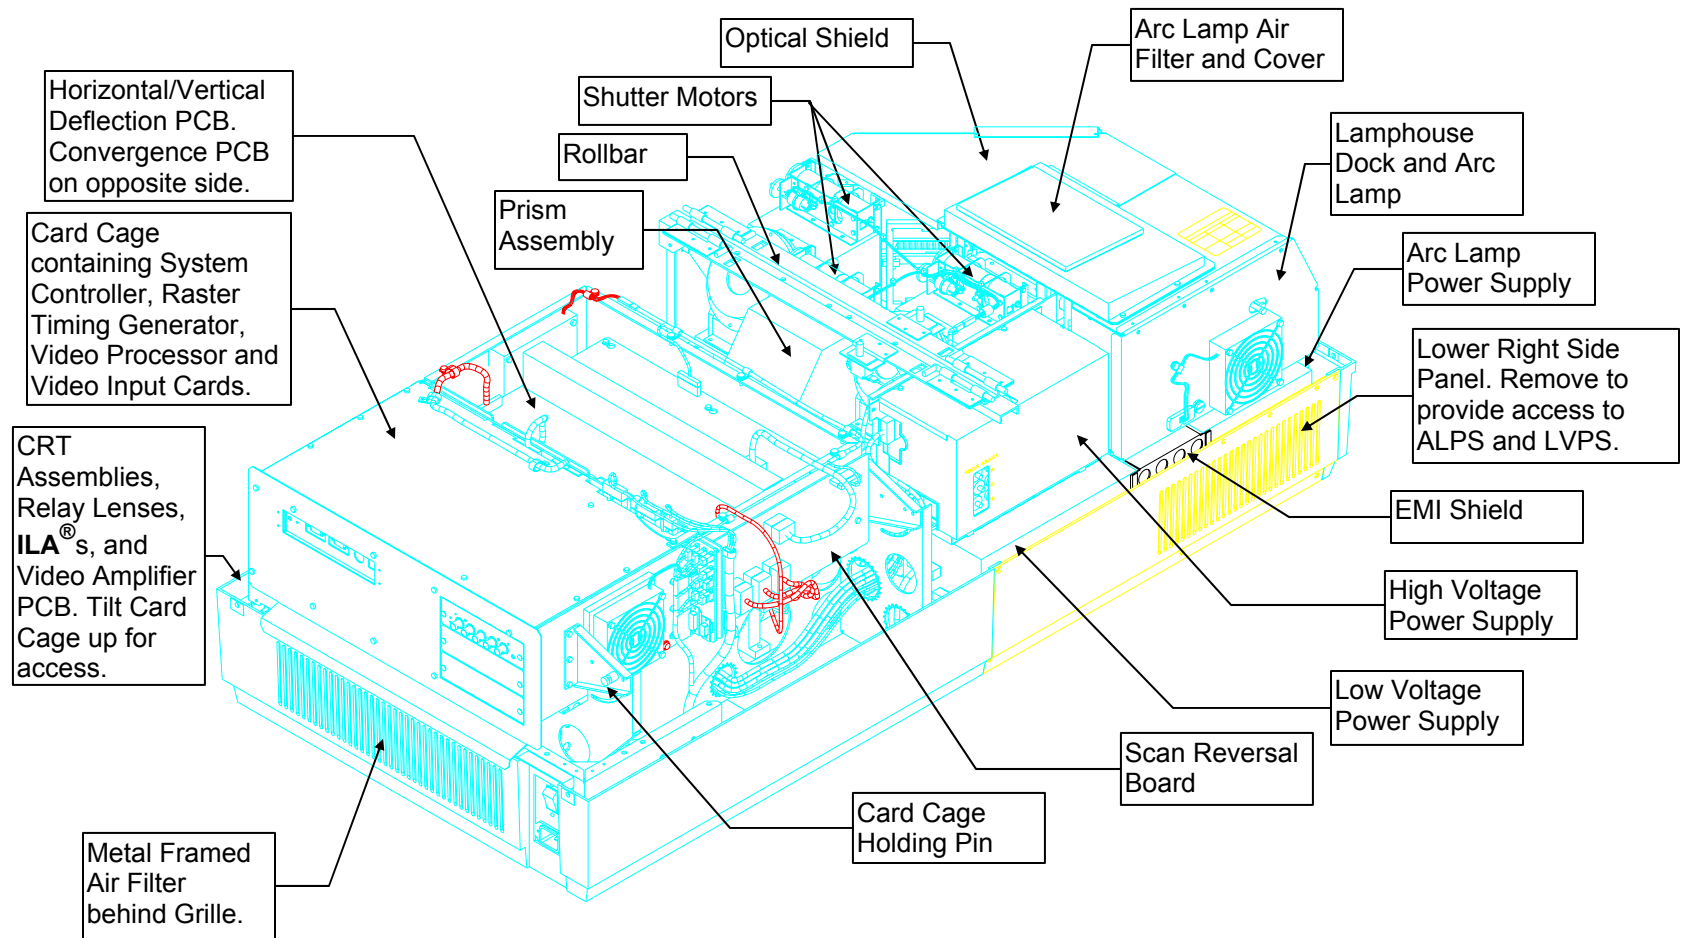

Figure 4-1. Major components of the Model 200 Projector.
When references are made to assemblies or components in this chapter, refer to Figures 4-1 and 4-11 for locations.
- 1 metal-framed filter in the rear of the projector in the bottom cover-accessible when the rear cover is off (*Figure 4-1*).
- 1 filter under the front cover, on top of the Arc Lamp and Optical Assemblies-accessible with the front cover off (*Figure 4-1*). This filter is also a peel-off type.
2. Remove the 5 pozidrive screws securing the projector's lower-right-side panel (*Figure 4-1*) and remove the panel.